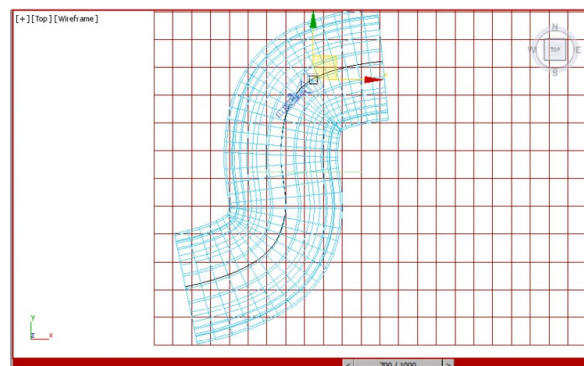

Figure 14-35 The position of the *Camera001.Target* at frame 700
17. Move the time slider to frame 700 and align *Camera001.Target*, as shown in Figure 14-35.